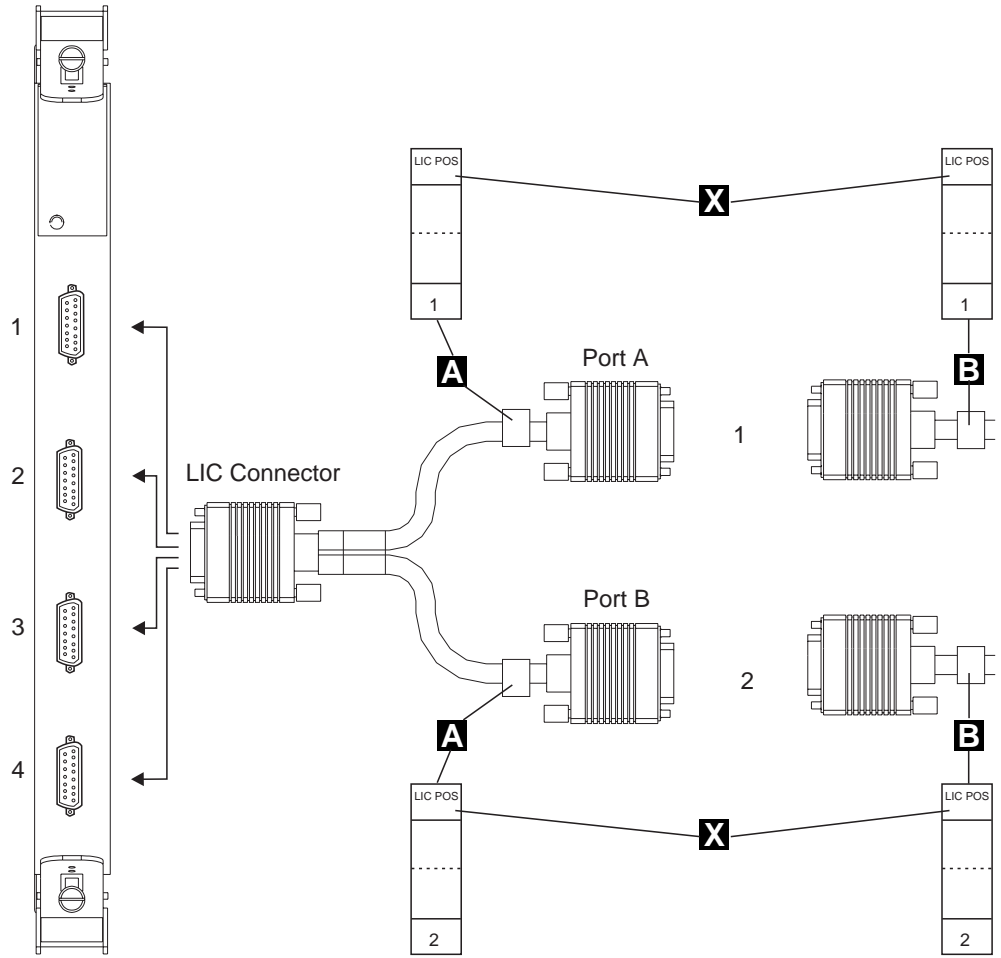

Figure 6-17. Identifying the Cables Connected to LIC 544 or 546
2. \_\_\_\_ Refer to Table 6-22 and Figure 6-17 on page 6-23, obtain labels PN 80G2223 from shipping group and record manually the LIC position (1 to 8) on these labels **X**. On the first Y cable (PN 80G2225) to be plugged into LIC connector 1, stick the labels **A** (1) and (2) on the cable leads identified respectively as (Port A) and (Port B). Identify the corresponding external cables with labels **B** (1 and 2). Repeat the same procedures for the other cables using labels from (3) to (8).